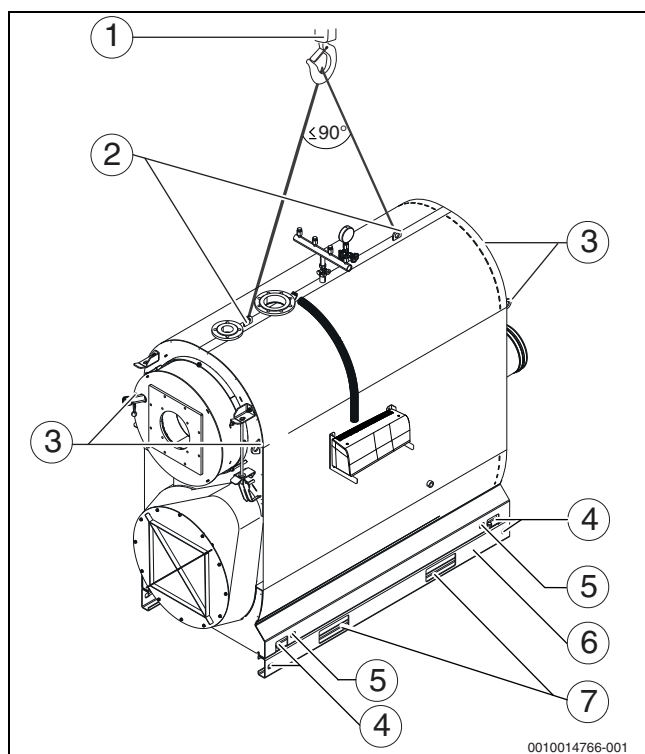

Fig. 4 Lifting the boiler with a crane
Never use the locking lugs (→ Figure 4, [3], page 11) for lifting.
- ▶ Insert the hooks of the lifting tackle into the eyes in both gusset plates of the boiler shell (→ Figure 4, [2], page 11).
- ▶ Lift the complete boiler with a pallet truck (→ Chapter 3.1.3, page 12) or from one side with a trolley jack (→ Figure 4, [5], page 11).